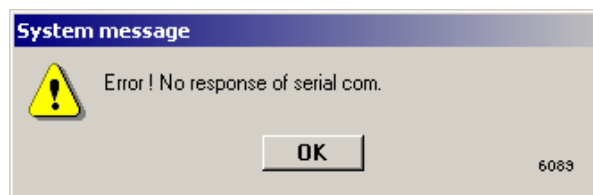

Fig. 2-8 Error Message (example)
- (b) If an error is detected in the initial setting, an error message window as shown in Fig. 2-8 will open and the communication line to the error-detected unit will be disconnected.